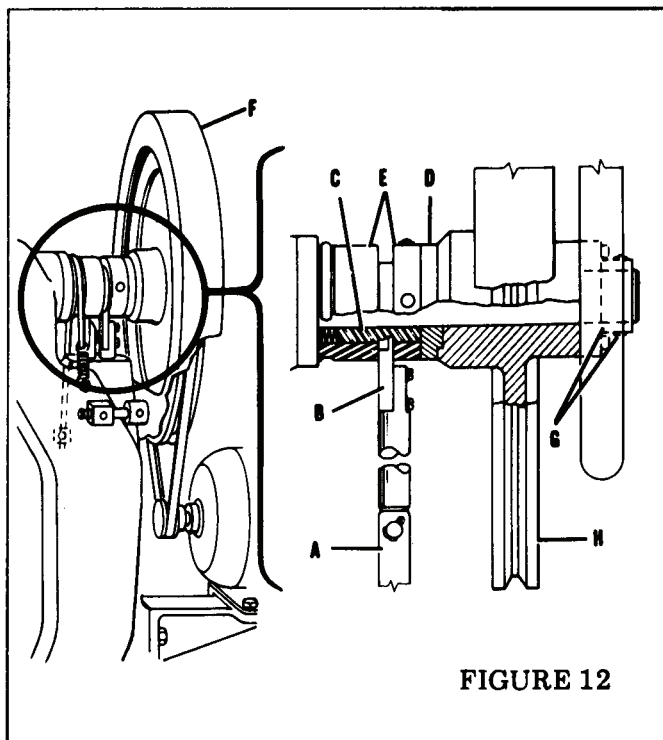

FIGURE 12
The power from the motor is transmitted from the flywheel (Index H, figure 12) through the clutch bolt (Index C, figure 12) and the clutch coupling collar (Index E, figure 12) to the drive shaft. The flywheel rotates independently on the drive shaft except when the clutch is engaged. It must be kept
well lubricated. If the stitcher repeats when the clutch bolt (Index C, figure 12) is withdrawn from contact with the clutch face the flywheel has seized on the drive shaft. Lack of oil reaching the shaft causes this condition. To correct, remove belt guard (Index F, figure 12). Then remove the set screw and the main shaft collar (Index G, figure 12) and pull the flywheel with a wheel-puller if necessary. If not scored too severely, smooth part with fine emery cloth and reassemble. Make certain that the oil holes in the clutch coupling collar and flywheel retaining collar are open and free of dirt. If the scoring is severe, the shaft and flywheel should be replaced.
The clutch bolt will not engage with the clutch face (Index D, figure 12) on the flywheel, if (1) the clutch bolt binds in the clutch coupling collar (Index E, figure 12), (2) the clutch spring breaks, (3) the end of the clutch bolt or the clutch face becomes worn. A clicking sound will result or the stitcher will fail to operate when the foot pedal is depressed. When pressure is removed from the foot pedal, the clutch throwout (Index B, figure 12) is pushed upward into a groove in the clutch bolt. This action disengages the bolt from the clutch face. If the bolt breaks, it is always the end which engages the clutch face. The clutch throwout retracts the main body of the bolt, but the broken end often remains in contact with the clutch face. This causes the stitcher to stitch continuously. If the clutch bolt is not retracted completely, a clicking noise will result. This can be caused by a worn groove in the clutch bolt or a worn clutch throwout. Wear on the groove in the clutch bolt and clutch throwout will be at the point where they contact each other. The clutch face and the end of the clutch bolt wear at the point they engage each other.
1. Remove belt guard (Index F, figure 12) and V-Belt.
2. Remove the set screw and main shaft collar (Index G, figure 12).
3. Slide flywheel (Index H, figure 12) off.
4. Remove bolt by pulling down on the clutch throwout (Index B, figure 12).
The purpose of the trip rod (Index A, figure 12) is to transfer the downward pull of the foot pedal to the clutch throwout (Index B, figure 12). This permits the clutch bolt (Index C, figure 12) to engage the clutch face (Index D, figure 12).